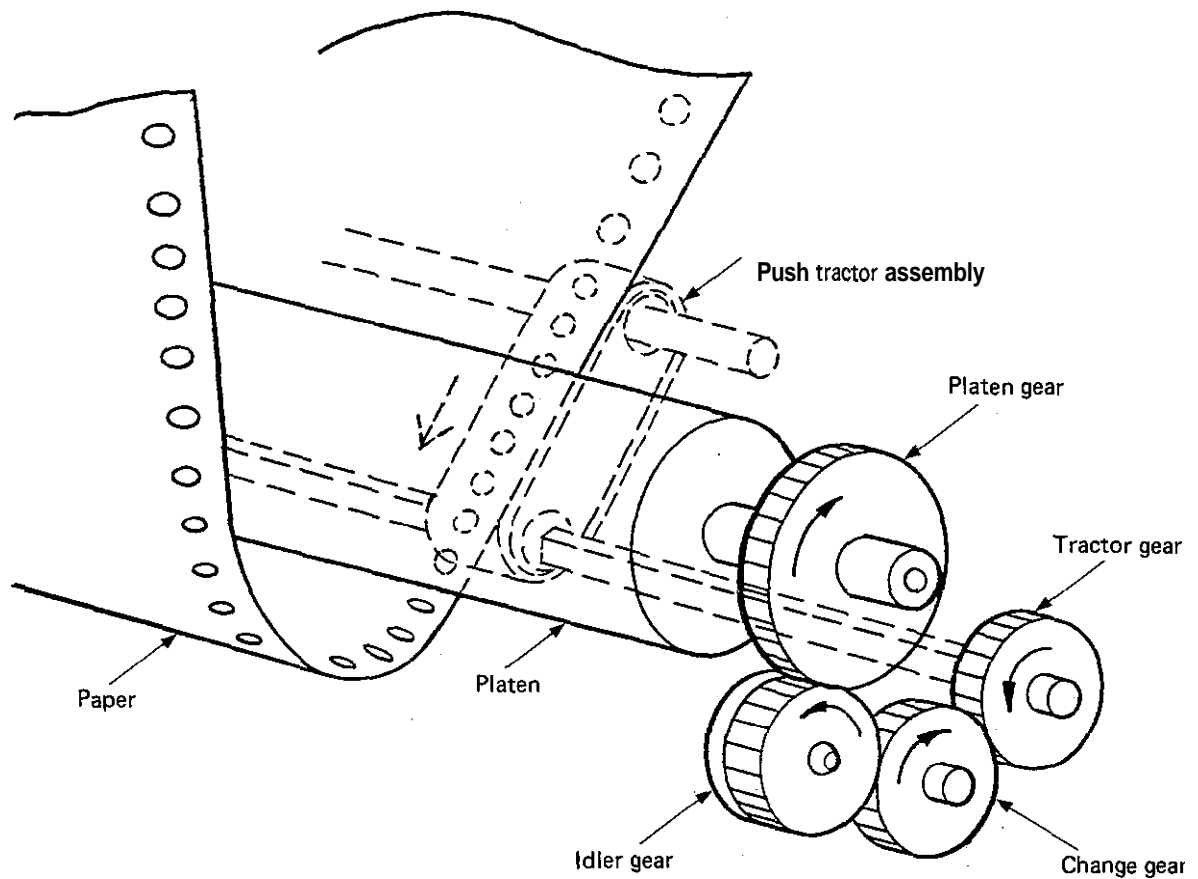

Figure 3-8 Paper feed operation of continuous paper
(2) Continuous paper feed operation (See Figure 3-8.)